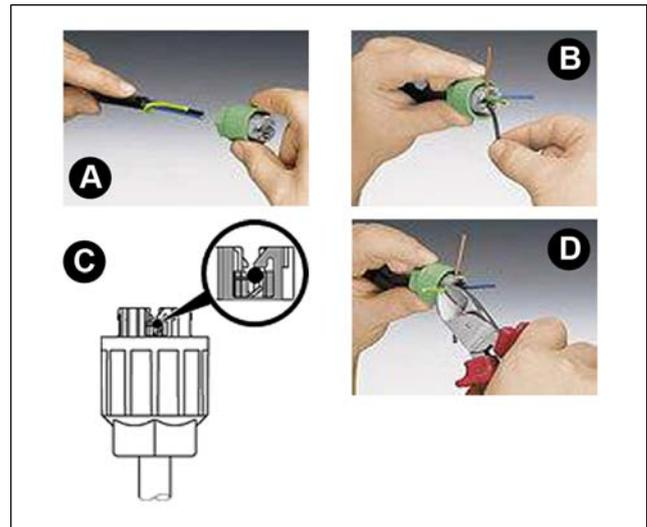

Fig. 4. Mounting power cable connector.
1. Remove about 40 mm from the end of the cable sheath; Fig. 4, step A. Wrap the ground conductor once around the cores before sliding on the union nut, so that the ground conductor is the last to become disconnected when extreme tension is applied.